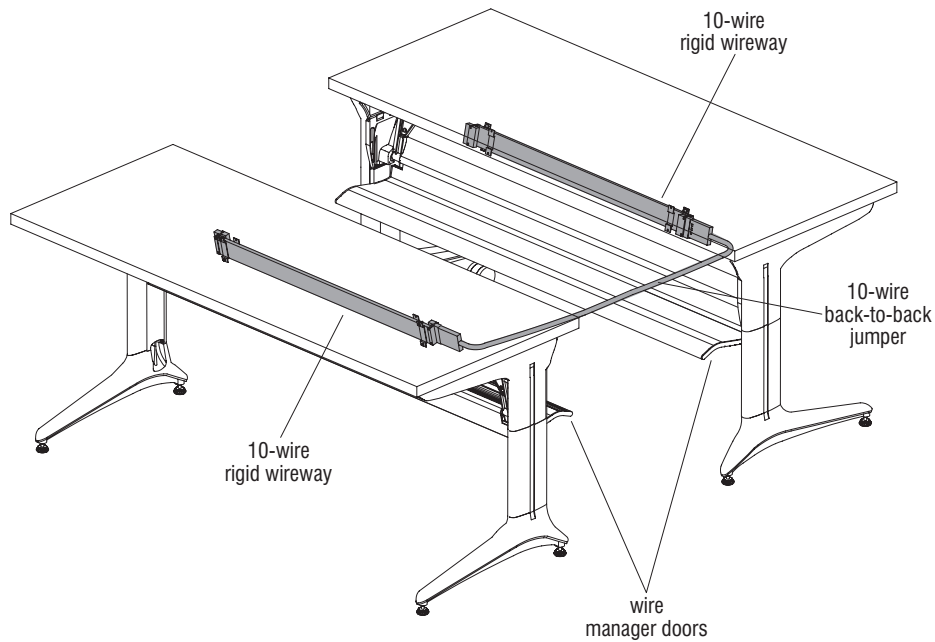

Figure 9
2. Open the wire manager door on each table and install a 10-wire table-to-table jumper across the rigid wireways on one end of the tables (Figure 9).